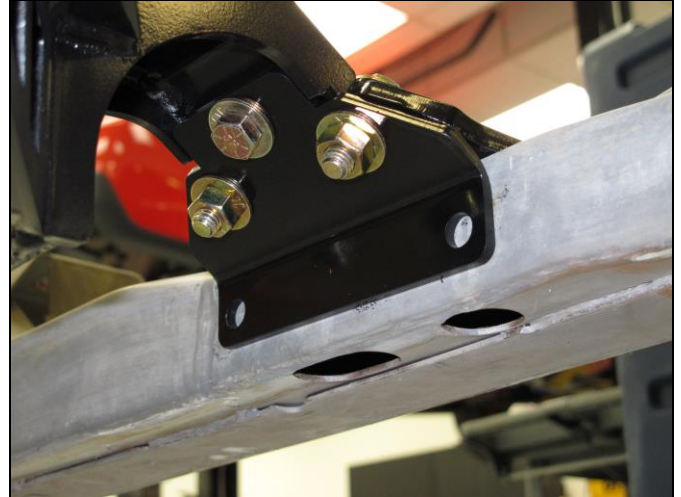

Figure 2
6. Loosely attach one of the included upper and lower anchor brackets to the right side of the crossmember by installing one of the supplied 7/16 x 1" bolts from the bottom side of the crossmember and two of the supplied 7/16 x 1.5" bolts from the top of the crossmember. Install two supplied 7/16 nuts onto the bottom of the 7/16 x 1.5" bolts. Refer to **Figure 2** for clarification.
8. Loosely attach the remaining upper and lower anchor brackets to the left side of the crossmember by installing the remaining 7/16 x 1" bolts from the bottom side of the crossmember and the remaining 7/16 x 1.5" bolts from the top of the crossmember. Install two supplied 7/16 nuts onto the bottom of the 7/16 x 1.5" bolts. Refer to **Figure 2** for clarification.